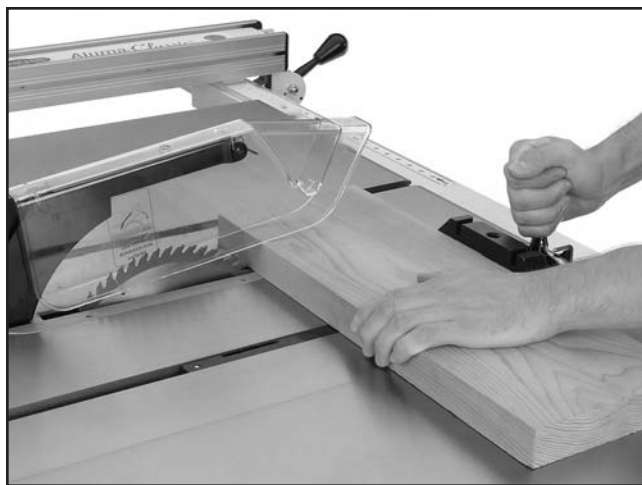

Figure 43. Crosscutting operation.
6. Hold the workpiece firmly against the face of the miter gauge and ease it into the blade as shown in **Figure 43**.